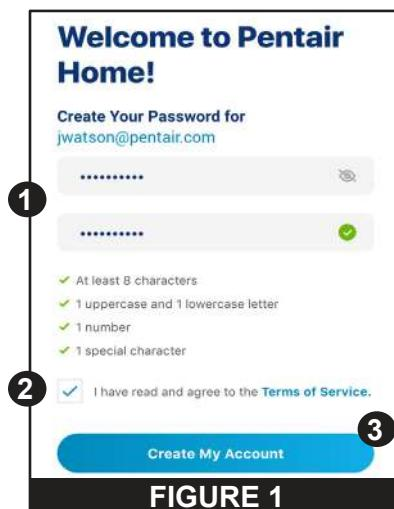

FIGURE 1
- The Password Creation screen will display. See **FIGURE 1**.
- Enter your desired password in both entry fields (1).
- Review the terms of service by pressing **TERMS OF SERVICE**. Check the Terms of Service Box (2) to acknowledge you have read the Terms of Service.
- Press **CREATE MY ACCOUNT** (3).